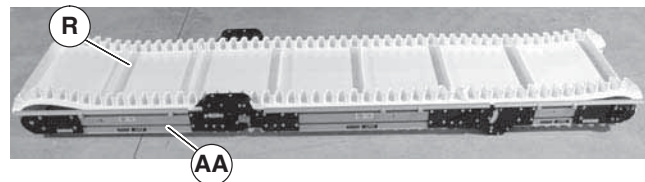
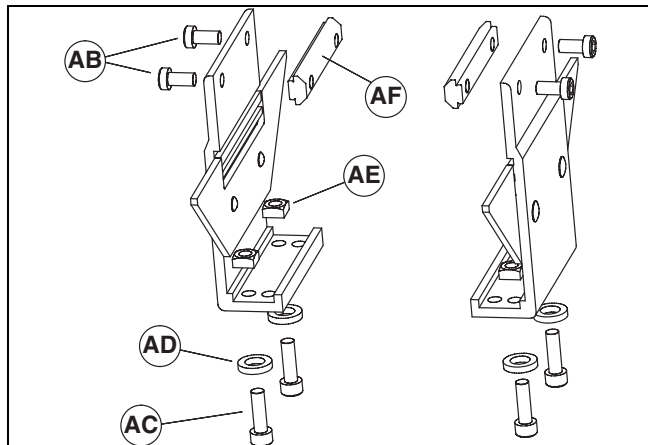

Figure 10
Figure 11
1. Locate brackets. Exploded views shown in Figure 10.
2. Remove screws (Figure 10, item AB & AC), washers (AD), nuts (AE) and T-bars (AF) from brackets.
3. Insert T-bars (Figure 10, item AF) into conveyor side slots (Figure 11, item AF). Fasten brackets (Figure 11, item AG) to conveyor with mounting screws (AB).
4. Fasten brackets to support stand with mounting screws (Figure 11, item AC), washers (AD) and nuts (AE).
5. Tighten screws (Figure 11, item AB & AC) to 60 in-lb (7 Nm).